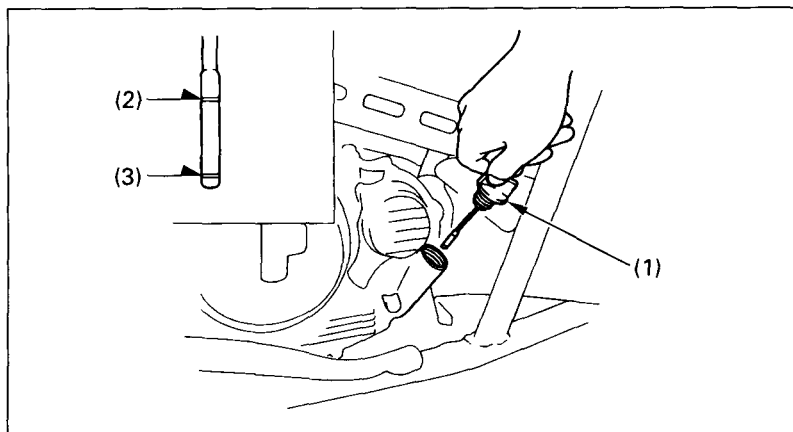

Fig. 4-9
4. After a few minutes, remove the oil filler cap/dipstick (Fig. 4-9) from the right crankcase cover and wipe it clean.
5. Insert the dipstick without screwing it in, then remove the dipstick and check the oil level. The oil level should be between the upper level mark (2) and the lower level mark (3) on the dipstick.
1. With the FOURTRAX on level ground, remove the oil filler cap/dipstick from the right crankcase cover (Fig. 4-9).